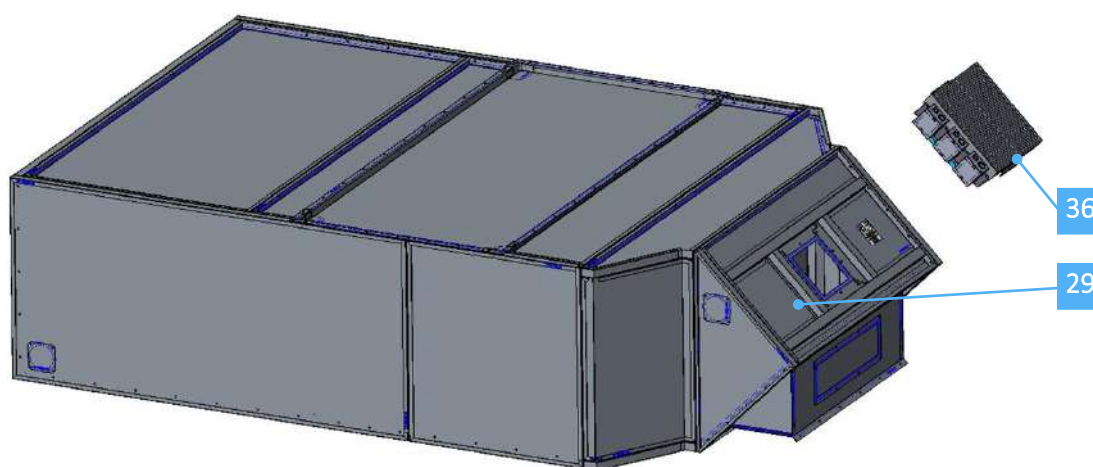
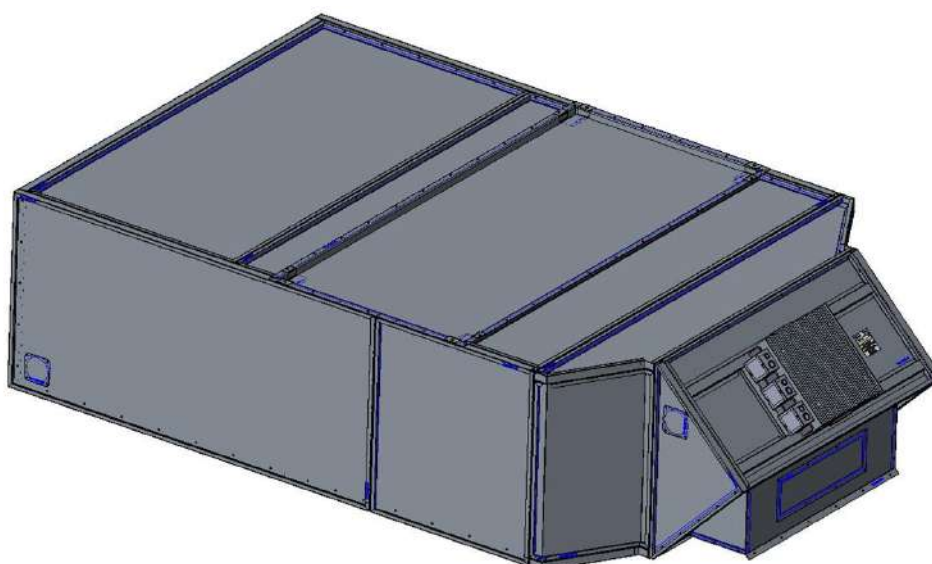
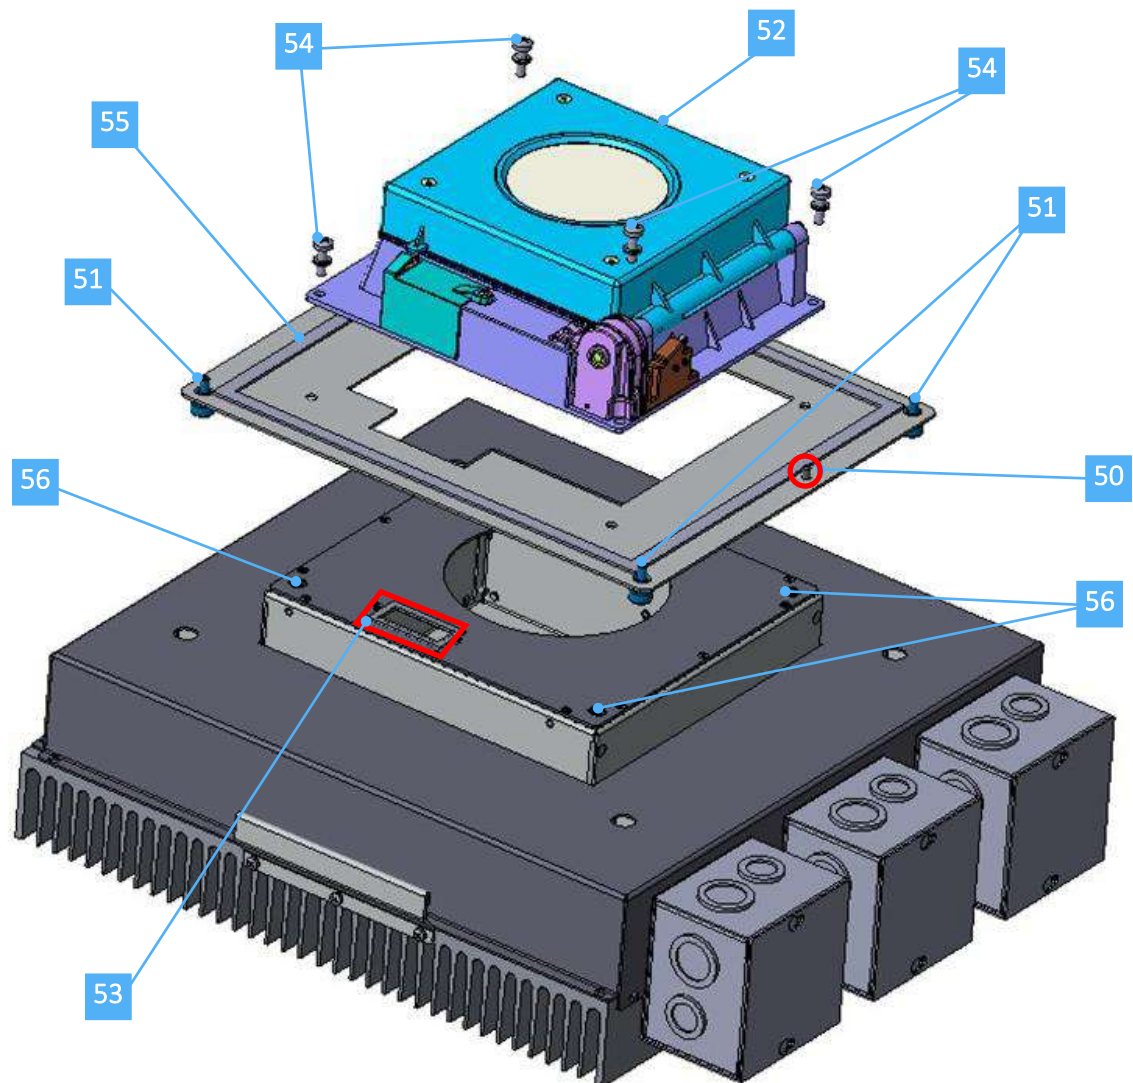

Fig. 44 Installation sequence - Step 14B
Fig. 45 Installation sequence - Step 14B
Fig. 46 Installation sequence - Step 14B, OPTION 2
OPTION 1: if you do NOT intend to use the moon module, use the centring pins [50] (red circle in Figure 46) to install the projector directly on to the tilted panel [29] (Figures 44 and 45). Then, fasten it with the 4 M6 captive screws [51] on to the support plate (Figure 46), which can be reached using the Phillips screwdriver with the 20 cm-long handle via the through holes on the aluminium louvre. N.B.: while you fasten the projector to the rest of the system, the three grey connection boxes remain on your left (Figure 45).
Use the centring pins [50] (red circle in Figure 46) to install the projector group on to the tilted panel [29] (Figures 44 and 45). Fasten it with the 4 M6 captive screws [51] on the support plate (Figure 46), which can be reached using the Phillips screwdriver with the 20 cm-long handle via the through holes on the aluminium louvre.
N.B.: while you fasten the projector to the rest of the system, the three grey connection boxes remain on your left (Figure 45).